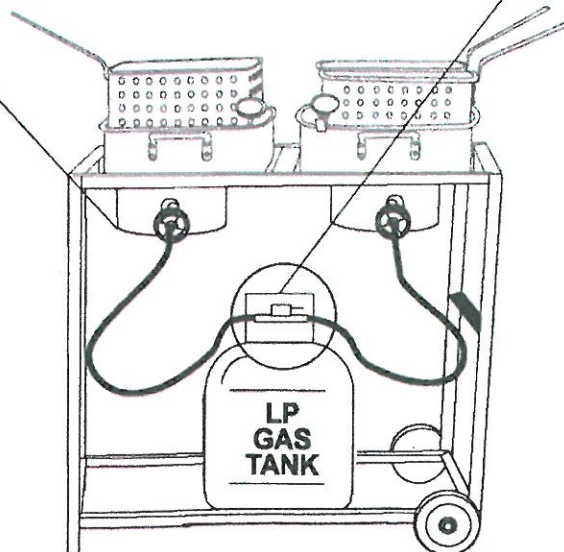

**Figure 1** DOUBLE HOSE WITH MALE FITTINGS AND NEEDLE VALVES WITH NON-ADJUSTABLE PRESSURE REGULATOR.
5. Refer to Figure 1 below for hose assembly instructions.
4. Attach the regulator to the cylinder valve by turning the Type 1 fitting clockwise. Hand tighten with the regulator positioned upright. Refer to the appropriate assembly diagram for the appliance, page 3, Figure 1.